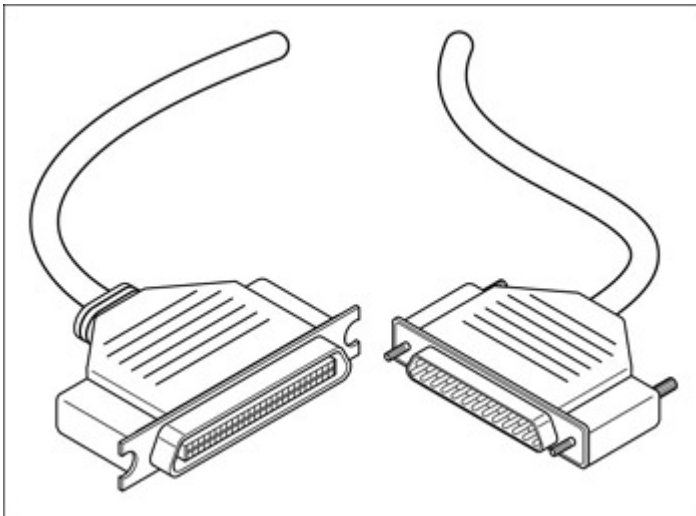

Figure 14-1: The parallel connector (right) and the Centronics connector (left) are the two most common connectors used to connect a printer to a PC.
- 25-pin DB (data bus) female connector:** The parallel port on the back of a PC is a 25-pin female connector into which the male connector counterpart on the printer cable (see Figure 14-1) is connected. Most computers today have only one LPT port, and it's usually mounted either on the motherboard or an expansion card.
- 36-pin Centronics:** This common connector, shown in Figure 14-1, is used at the printer end of the connecting cable. The PC end of the cable is a 25-pin male connector, as described in the